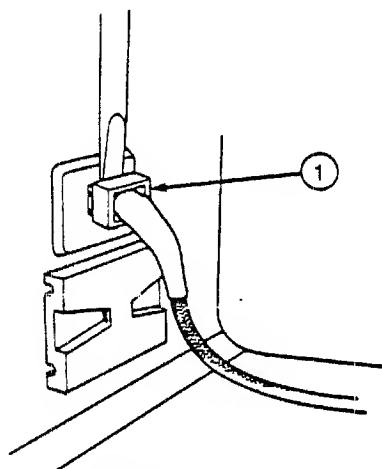

FIGURE 8
4. With a flathead screwdriver, pry the cable clamp off the back of the LED (Figure 8, #1) and slide it down the cable, out of the way.